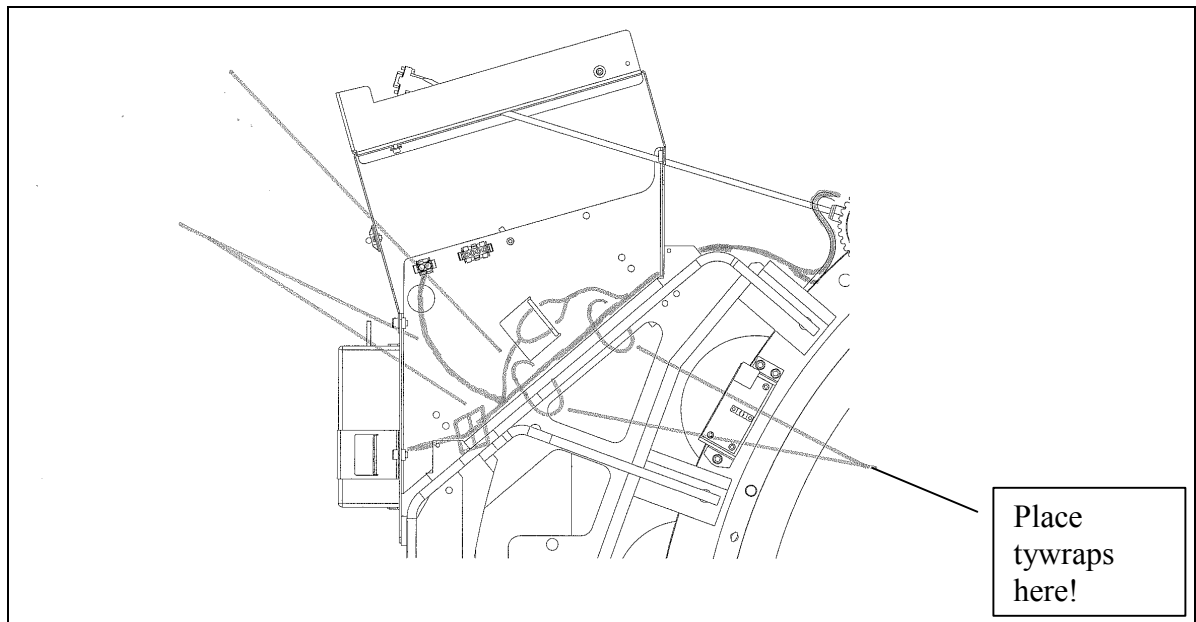

Figure 16. Cable Routing - Gantry Left Hand Fan, Front
17. Refer to Figure 16. Reroute 120V harness and encoder harness. This may require disconnecting some wires. Tywrap as indicated.
18. Refer to Figure 16 and 17. Utilize tywraps as needed to ensure cables are dressed and routed as shown and that no harness is able to rub against sheet metal edges or corners.